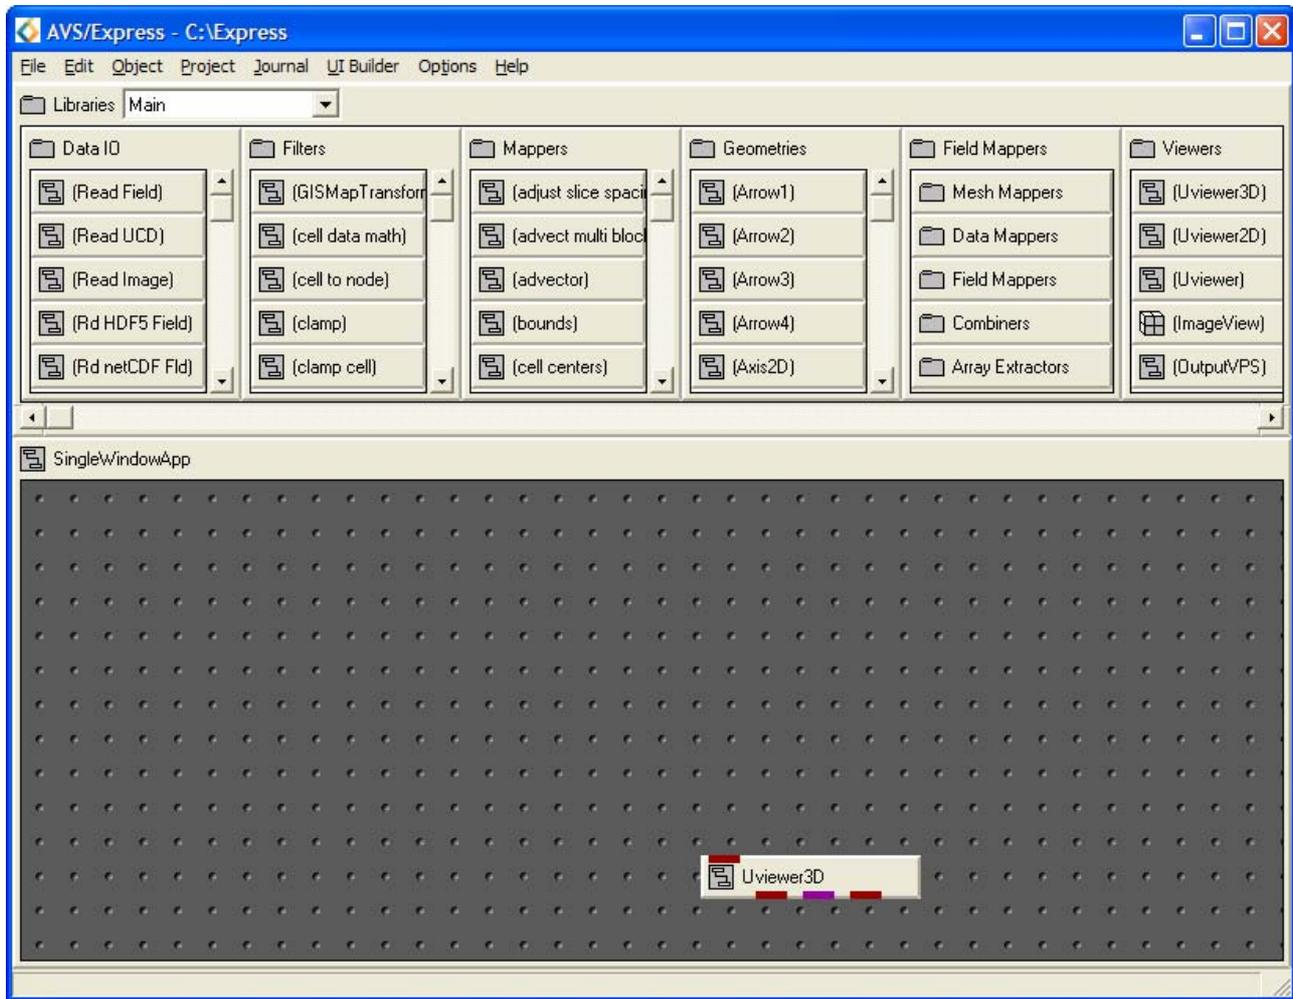

Figure 2.5: Network Editor in the Main library
- A layout similar to that of Figure 2.5 should now appear, showing the major components of the Network Editor.